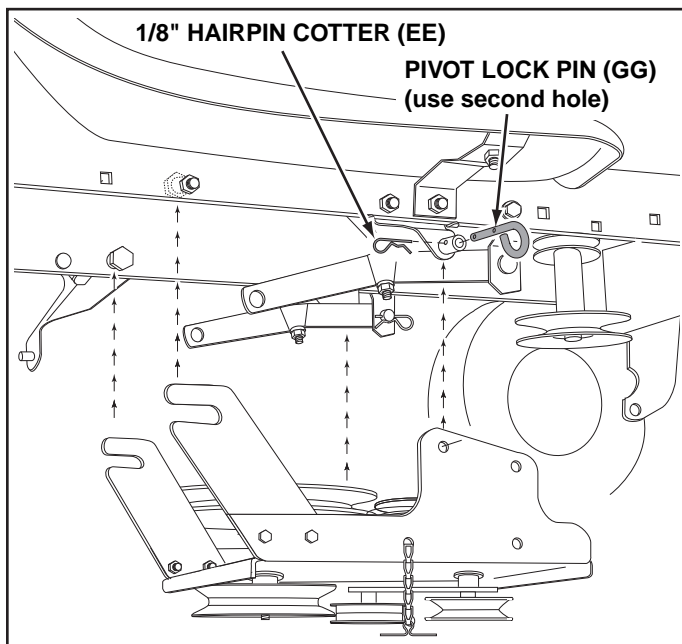

FIGURE 45
STEP 46: (SEE FIGURE 45)
- Attach the clutch/idler assembly to the tractor frame as follows. Hook the assembly's notched arms onto the two shoulder bolts you assembled to the inside of the tractor frame. Lift the front of the assembly and attach it to the R.H. and L.H. hanger brackets using two pivot lock pins (GG) and 1/8" hairpin cotters (EE).
NOTE; To prevent the chain from dragging on the ground, loop the end of the chain through the pivot lock pin. Refer to figure 45 on page 21.